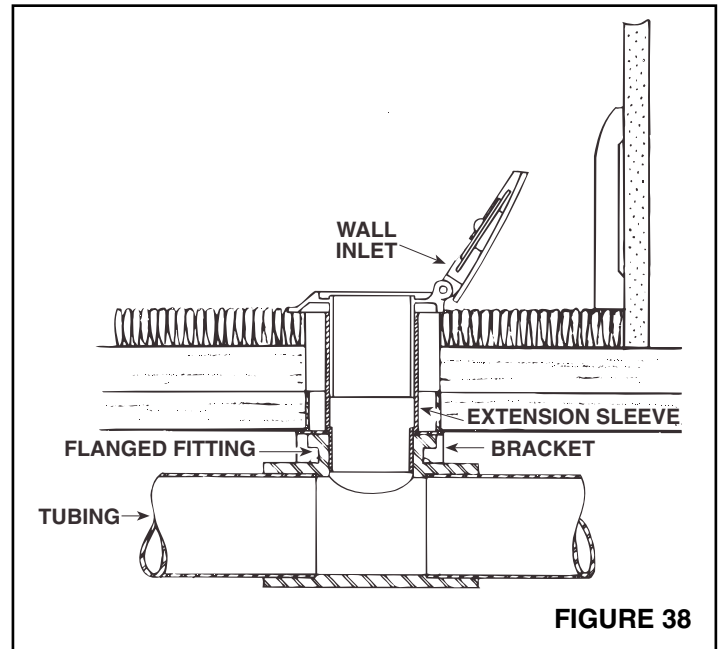

FIGURE 38
5. Refer to Figure 38. Pull Low Voltage 2-Conductor wire through mounting bracket and attach to terminal screws on back of floor inlet. Cement extension sleeve to Model 360 inlet. Insert extension sleeve through vinyl gasket in mounting bracket and firmly seat into flanged fitting.